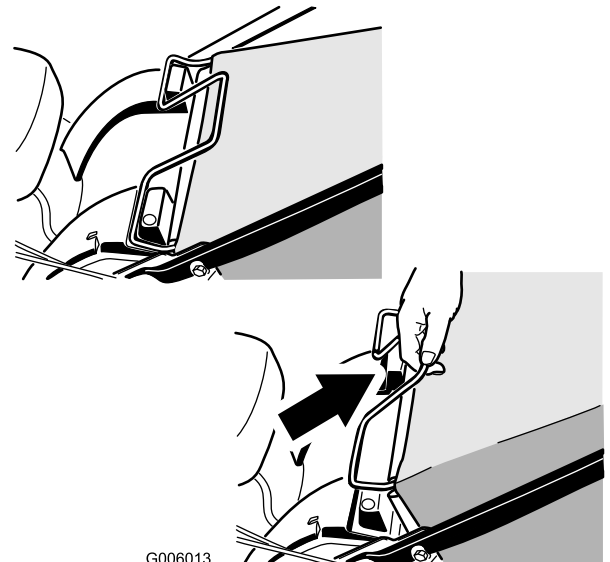

Figure 28
1. Lift the grass bag handle out from the grooves at the top of the machine and remove the bag (Figure 28).